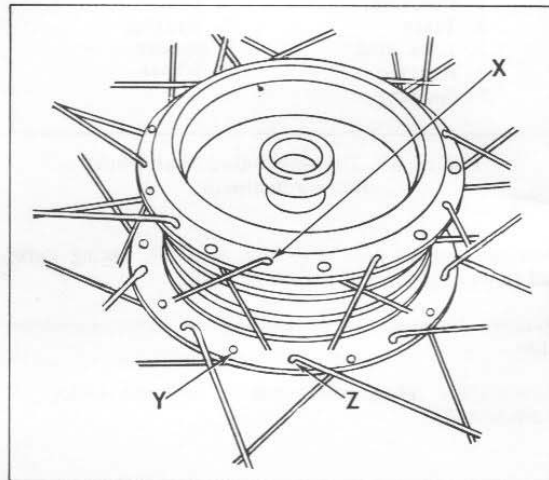

Figure 2.13. Spoke Arrangement
4. Insert an outside spoke up through spoke hole (X) in upper flange.
5. Insert an inside spoke up through spoke hole (Z) in lower flange.
7. Arrange all outside spokes on both flanges in a clockwise direction. See Figure 2.13.
8. Arrange all inside spokes on both flanges in a counterclockwise direction. See Figure 2.13.